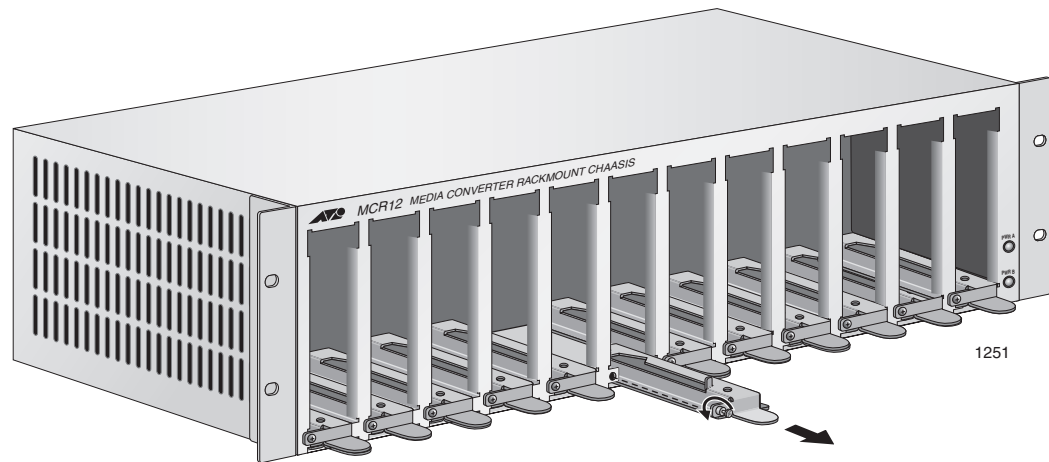

Figure 6. Removing the Mounting Rail
2. Loosen the captive screw that secures the mounting rail in the AT-MCR12 chassis, and remove the mounting rail by sliding it out, as shown in Figure 6.